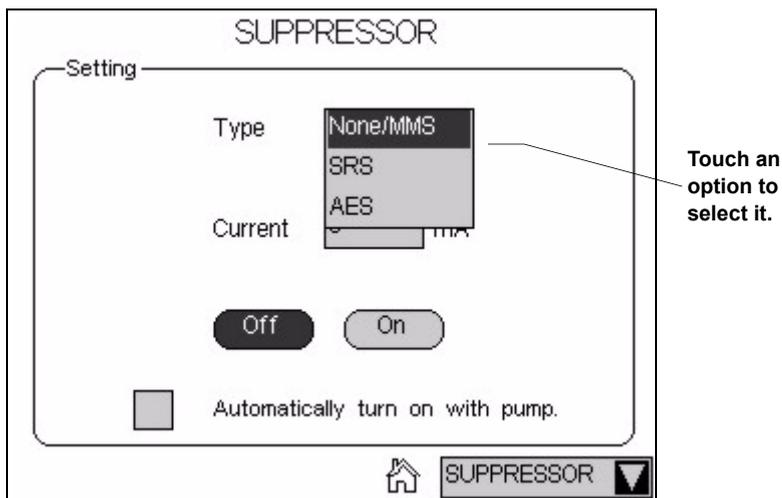

Figure 2-6. Suppressor Page: Selecting an Option
- Touching  opens a list of options from which to choose (see Figure 2-6).